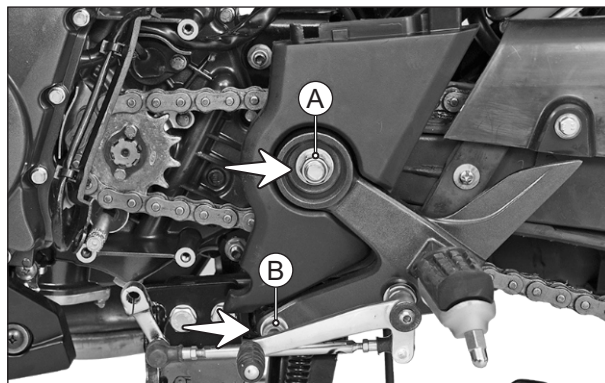

Fig. 2.93
- In-order to remove the foot rest assembly, remove the swing arm axle nut (A) along with punched washer. (Fig. 2.93)
- Also, remove the hexagonal socket head cap screw (B) (M10x25 - 1 no.) along with punched washer from the rider foot rest assembly and take out the rider foot rest assembly. (Fig. 2.93)